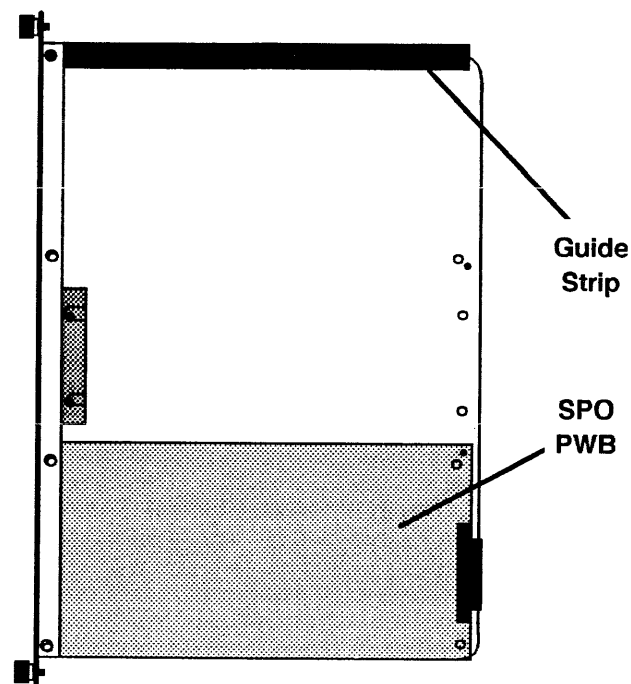

Figure 30. C5 Stiffener with SPO PWB and Guide Strip
2. Install the new C5 stiffener with the SPO PWB in the C5 slot. Be sure to line up the edges of the SPO PWB and the guide strip (Figure 30) with the guide rails in the processor. Push the stiffener gently into place until the thumbscrews can be engaged. Forcing the stiffener into the processor may damage the PWB connector, the backplane, or the stiffener. Tighten the two thumbscrews finger tight. Go to step 9.
4. Unpack the new C5 stiffener with the SPO PWB. Remove the screws that hold the guide strip in place (Figure 30) and discard both the guide strip and the screws.